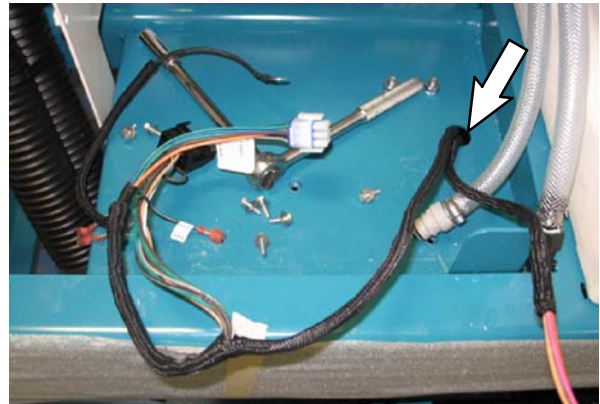

FIG. 7
10. Route the end of the *ec-H2O* harness with the diode through the hole in the frame of the machine and to the water valve attached to the scrub head. Refer to Fig. 7.